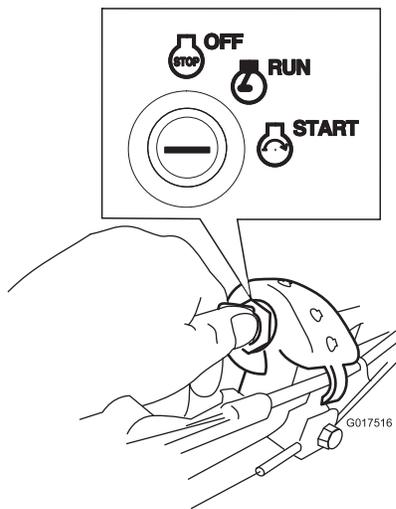

Figure 17
Turn and hold the ignition key to the Start position (Figure 17); when the engine starts, release the key.
1. Turn the ignition key to the Run position (Figure 17).